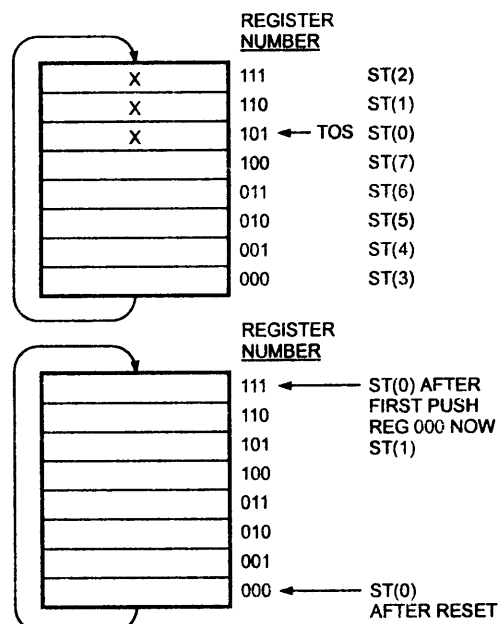

Fig. 11.12 Register stack in 8087
As shown in Fig. 11.12, the stack of 8087 is circular. So if you decrement 000 you get 111. When 8087 reads the first number, stack is decremented to 111(7) and the number is stored in register number 111(7). Now register 7 is the top of stack.